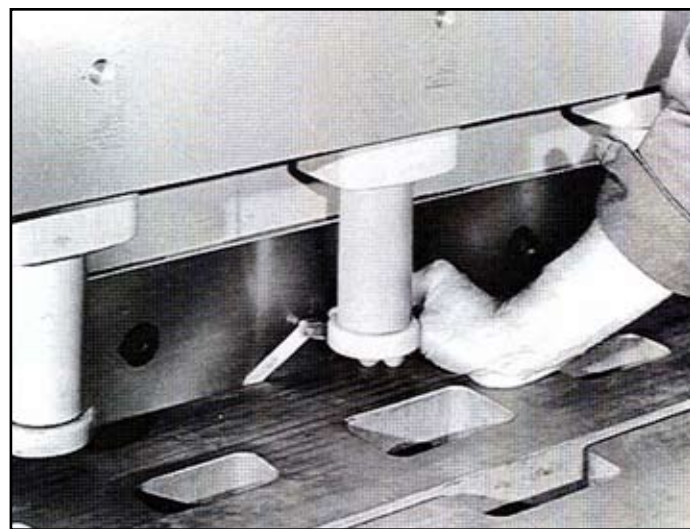

Figure 9-5 - Check Knife Clearance
6. Check the clearance at each adjusting stud as shown in Figure 9-5. The clearance should decrease gradually to .008” (.20mm) at the center and then gradually increase to .010” (.254mm) at the other end. If the clearance is other than this, realign the lower knife by means of the adjusting nuts as described in Step 7.